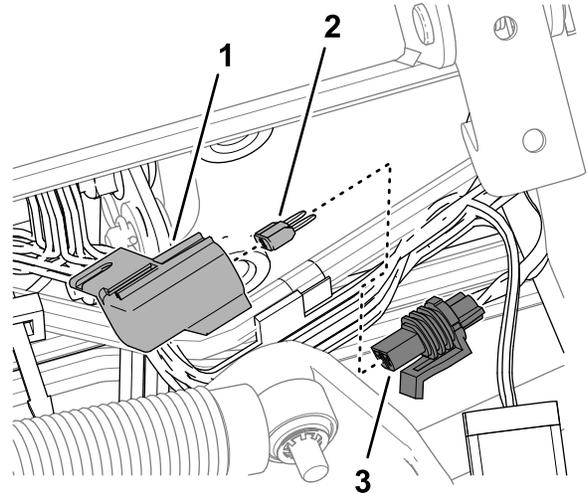

Figure 89
3. Remove the cap from the in-line fuse holder labeled 10 A FUSE TELEMATIC PWR (Figure 89).